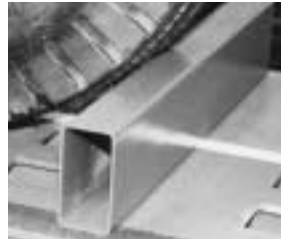

Figure 28
- 2) Immediately after positioning vehicle on mainframe, put vehicle in park (if automatic transmission), apply parking brake, and have helper block wheels and/or install optional wheel chocks at both front and rear of vehicle. Wheel chocks (see Figure 28) must fit securely within tie down holes on mainframe with wheel chock label facing tire.